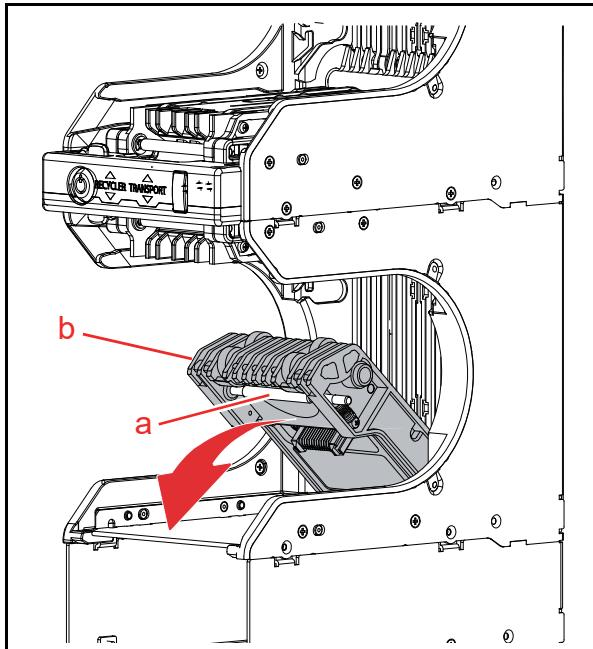

**Figure 4-2 RT Transport Unit Removal**
1. Press down on the Front Transport Unit's Release Lever (Figure 4-2 a).
2. Pull up the Front Transport Unit (Figure 4-2 b) as illustrated by the Arrow ①.
3. Pull the Release Lever (Figure 4-2 c).
4. Lift up and remove the Transport Unit (Figure 4-2 d) as illustrated by the Arrow ②.